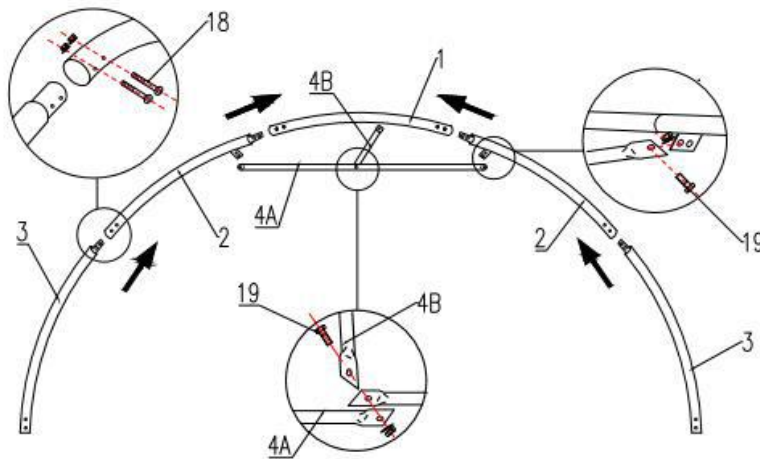

Figure 4
1. As Figure 4 shown to find one Roof Bent Tube (No.1), two pieces of Middle Bent Tubes for doors (No. 2), Lower Bent Tube (No. 3) and assemble every group arch with Screw M8x70 (No.20). DO NOT install the screw on the top of the truss where the fabric will rest.